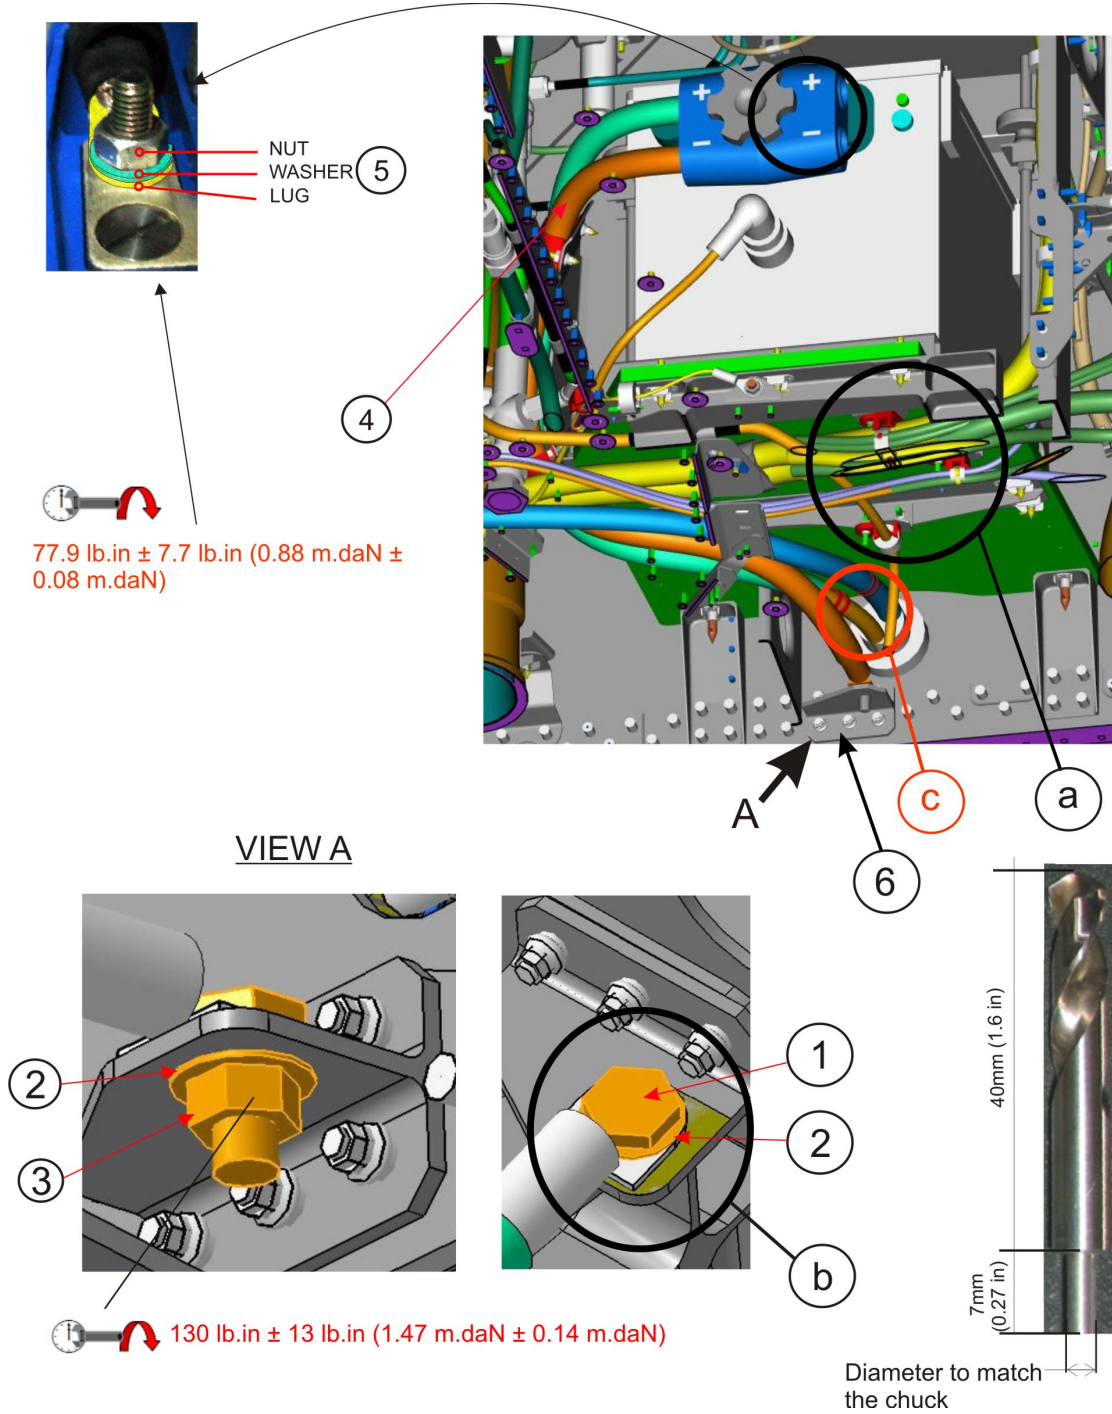

Figure 3: INSTALLATION OF LH NEGATIVE FEEDER
- (1) Removal of the BAT 1 negative feeder.
- (2) Inspection of the LH negative feeder bracket (6-fig. 3)
- (3) Installation of the new BAT 1 negative feeder (4-fig. 3)
CAUTION: PROTECT THE FEEDER DURING DRILLING (C-FIG. 3).
- (d) Clean up the bonding area connected to the feeder lug (b-fig. 3).
- (e) Install the lug with the new bolt/washers/nut assembly (1-2-3-fig. 3) on its bracket as follows:
- (6) Assemble all the wire bundles under the battery bracket assembly (a-fig. 3).
- (7) Install battery 1 (**L1000PC**) and perform a test (Refer to **TASK 24-32-01-900-801**).
- (8) Remove the warning placard "WARNING: DO NOT APPLY ELECTRICAL POWER".
- (9) Close the servicing compartment door (**MSD**).
4. APPENDIX: REPLACEMENT OF LH NEGATIVE FEEDER BRACKET (6-fig. 3)